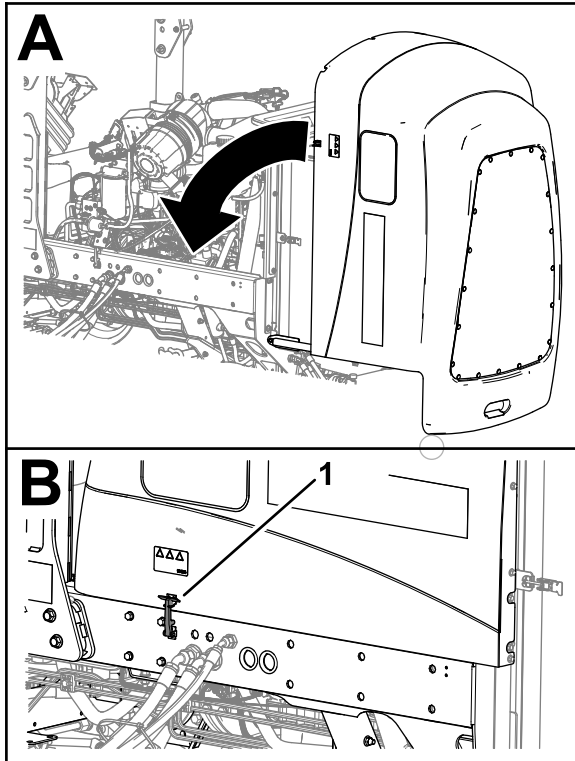

Figure 94
1. Carefully rotate the hood closed (Figure 94).